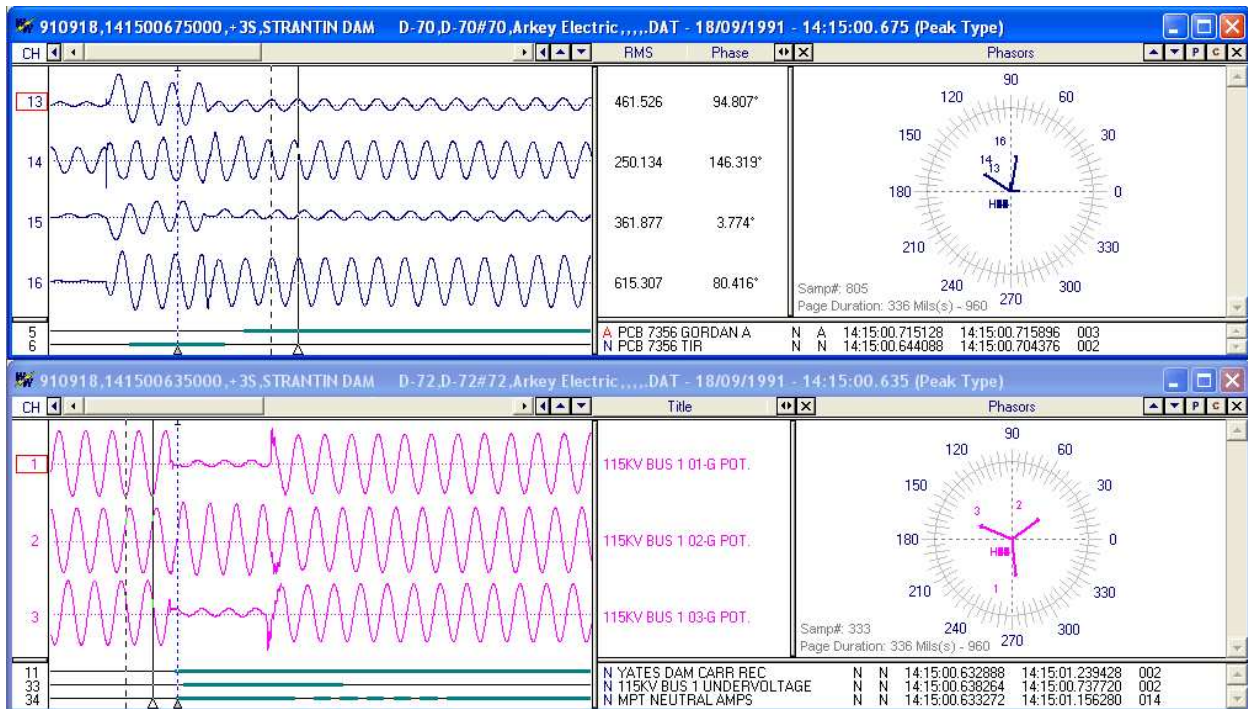

Figure 1.70 Merge Open Files – By Time: Open files and select channels to Merge
- By Time: Merge channel samples if they have a common time segment. The reference time is from the file with latest start date and time. The file with the least amount of samples determines the length of the new merged file. Refer to Figure 1.70 & 1.71.